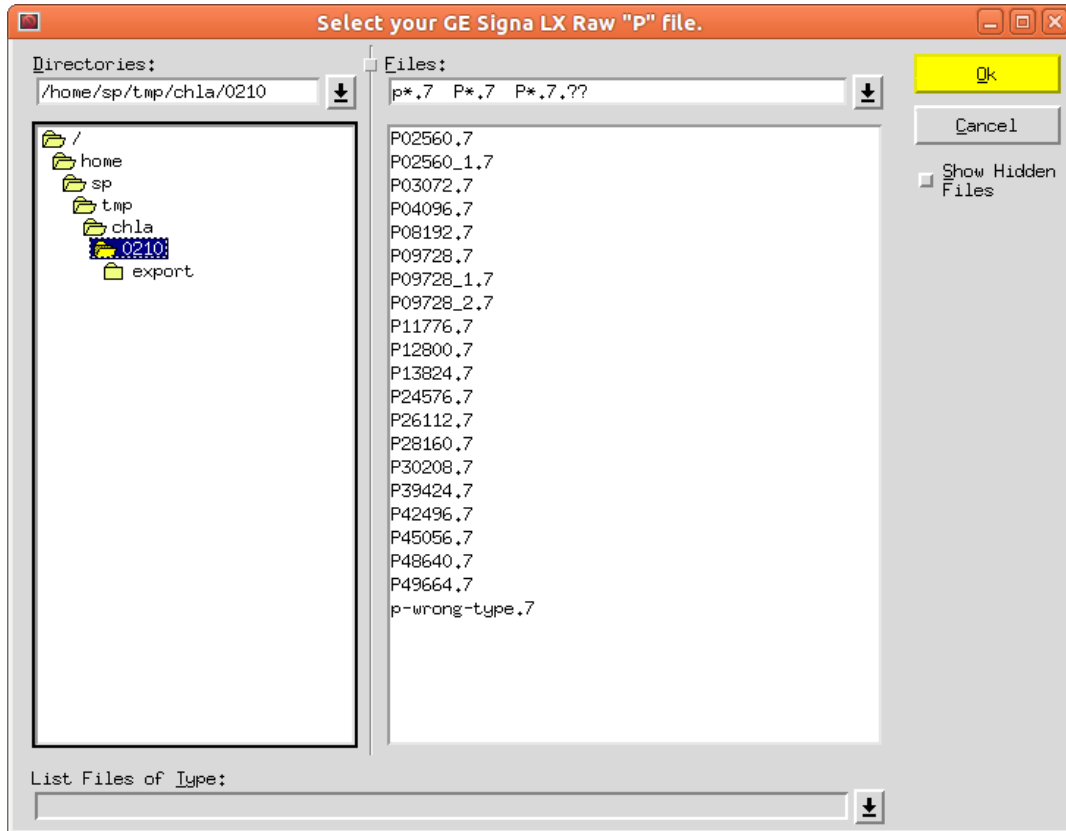
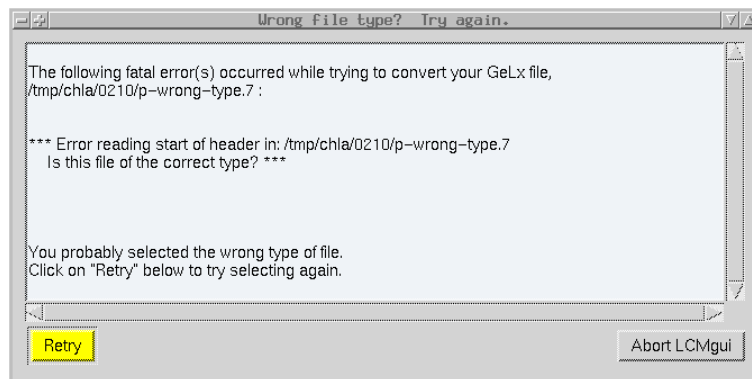
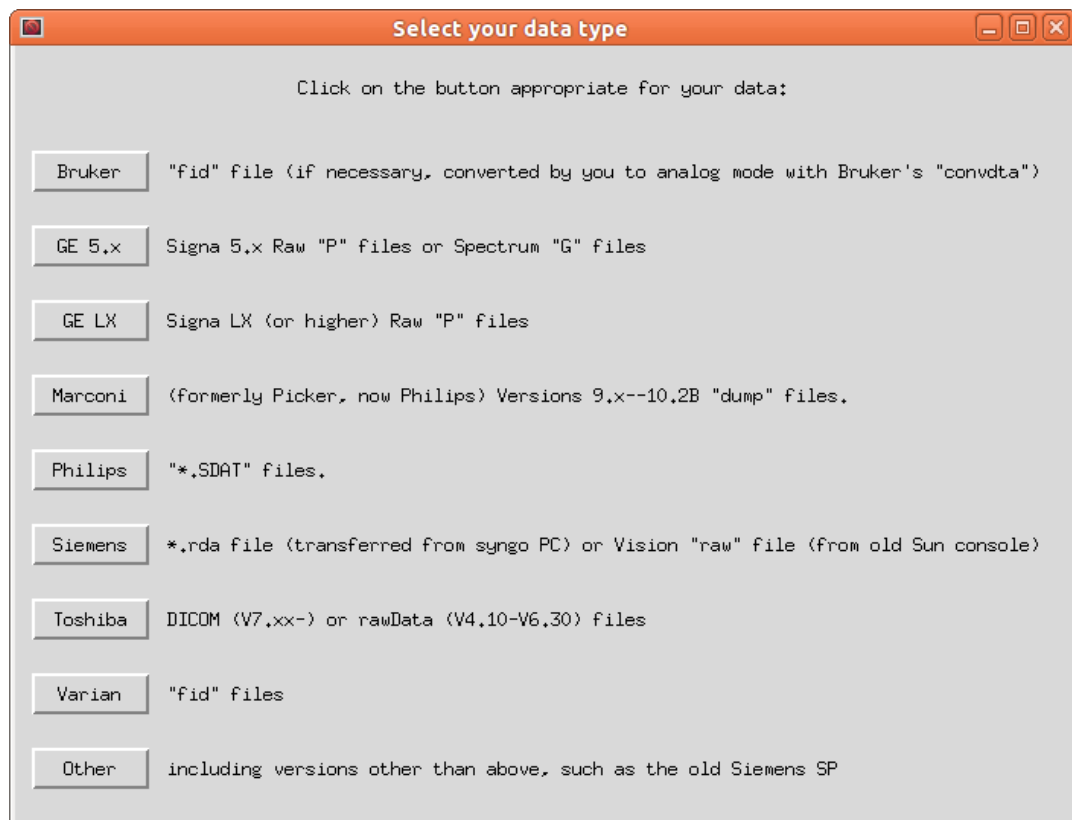
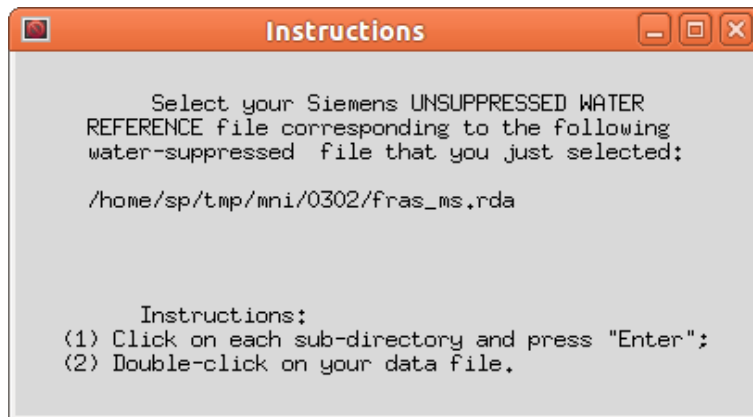

Figure 6.1: The File Selector, shown here for GE LX files
Figure 6.2: You selected a file of the wrong type in the File Selector
Figure 6.3: Note that GE Signal 5.x and LX (or higher) have distinct buttons.
Figure 6.5: The instructions-part of the File Selector for the unsuppressed water reference.
- Select the file containing the data to be analyzed (Fig 6.1 in Sec 6.2.1).
When LCMgui is started, the first window that appears is usually the *File Selector*. An example with GE Signa LX data is shown in Fig 6.1. With data from other manufacturers, the title, “Select your GE Signa LX ...” will be different. LCMgui remembers the directory where the data file was in the last run, and the File Selector starts there.
If the last LCMgui session did not use Bruker, GE, Marconi/Picker, Philips, Siemens, Toshiba or Varian data, then the window in Fig 6.3 will appear first. You normally then click the “Other” button in Fig 6.3, as you did in the previous session.
You first navigate through the directory tree. When you click on a directory, its files are listed in the right pane (the stage shown in Fig 6.1). You then click on the filename that you want to use and click the yellow “OK” button at the right (or simply double-click on the filename).
Only filenames that match the filter shown at the top of the pane of filenames (p*.7, P*.7 or P*.7.??) in Fig 6.1) are displayed. If your filename differs from this standard (e.g., if you analyzed GE Signa 5.x data last time and LX data this time), then it will not be listed. You can change
If the filenames or directories in Fig 6.1 are so long that they are cut off, then the width of the panes can be adjusted by holding the left mouse button down on the small square at the top on the pane boundary (between “**Directories:**” and “**Files:**”) and dragging the pane boundary. (You can also simply use the scroll bar that appears at the bottom of the pane when names are too long.)
LCMgui remembers what type of data was analyzed from this account and User Profile the last time, and it expects the same type this time. You therefore get a window like Fig 6.2 if in the File Selector you:
- Select a completely irrelevant file (e.g., `p-wrong-type.7` in Fig 6.1 to produce Fig 6.2).
Otherwise, click the yellow “Retry” button in Fig 6.2. A window like Fig 6.3 appears. Here you click on the appropriate type of data. The File Selector then returns, giving you another chance to select your data file.
Select unsuppressed water reference file If the “Do eddy-current correction” button is active (blue), the File Selector window appears (unless you have Marconi/Picker files or GE Probe P-files, which already contain the water reference). It is exactly as in Fig 6.1, except for the window of instructions at the upper left (Fig 6.5). As you can see from Fig 6.5, the filename of your currently selected water-suppressed data is shown, and you must select the corresponding unsuppressed data file.
- (1) **File Selector.** You select the file containing your (binary scanner) data to be analyzed with the window in Fig 6.1.
- (2) **Data Conversion.** A program is executed to produce the LCModel `.RAW` file and any available Control Parameters (e.g., `NUNFIL`, `DELTAT`) from the file selected in Step (1). You can specify this program to be the standard LCMgui program for the standard Bruker, GE, Marconi/Picker, Philips, Siemens, Toshiba or Varian files (Sec 3.7). However, there is also an “Other” button to use a script supplied by you for another type of file.
- (3) **Preprocessor.** Even if you specify one of the standard programs for Step (2), you can still supply your own script in this step to modify the `.RAW` file or Control Parameters from Step (2). (The original default, when LCMgui is installed, is to use no Preprocessor.)